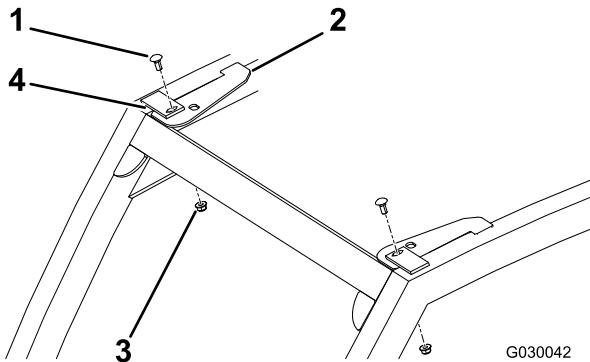

Figure 3
1. Position a front bracket as shown in Figure 3.
2. Secure the bracket with a carriage bolt and a flange nut (Figure 3).